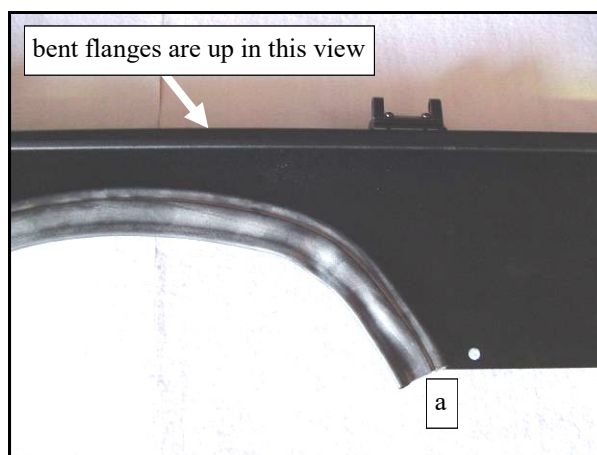
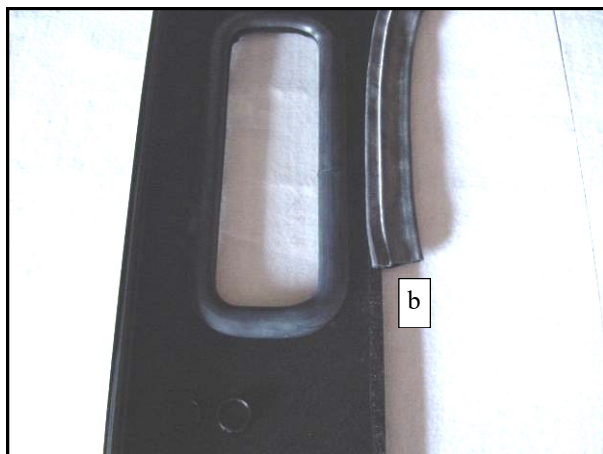

Fig. 7.2 (starting point for bulb rubber)
Fig. 7.2c (ending point for bulb rubber)
7.2 Per fig. 7.2, install the supplied flat bulb rubber seal starting at point "a" and continuing onto the left front leg and ending at point "b" in fig. 7.2c (ref.: 38 inch long piece of bulb rubber).